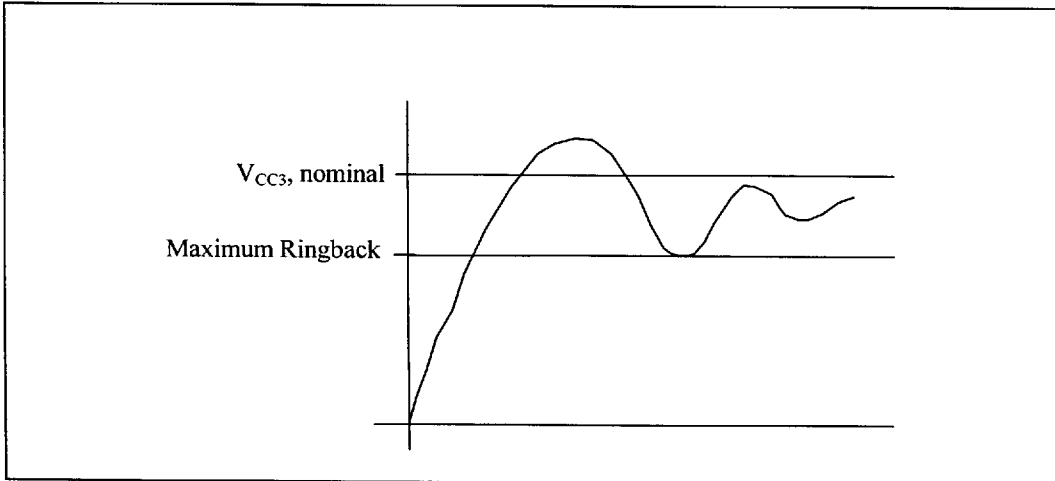
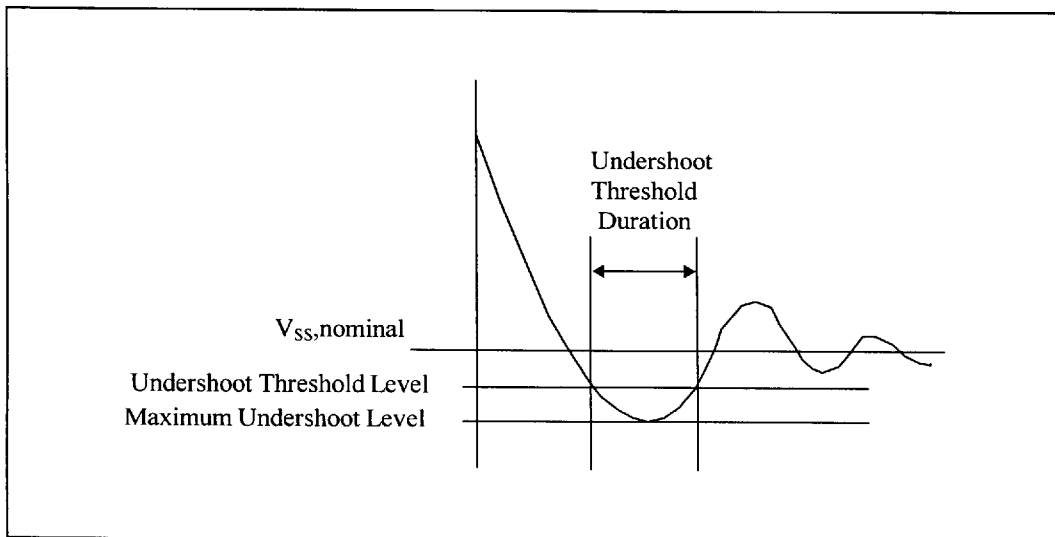
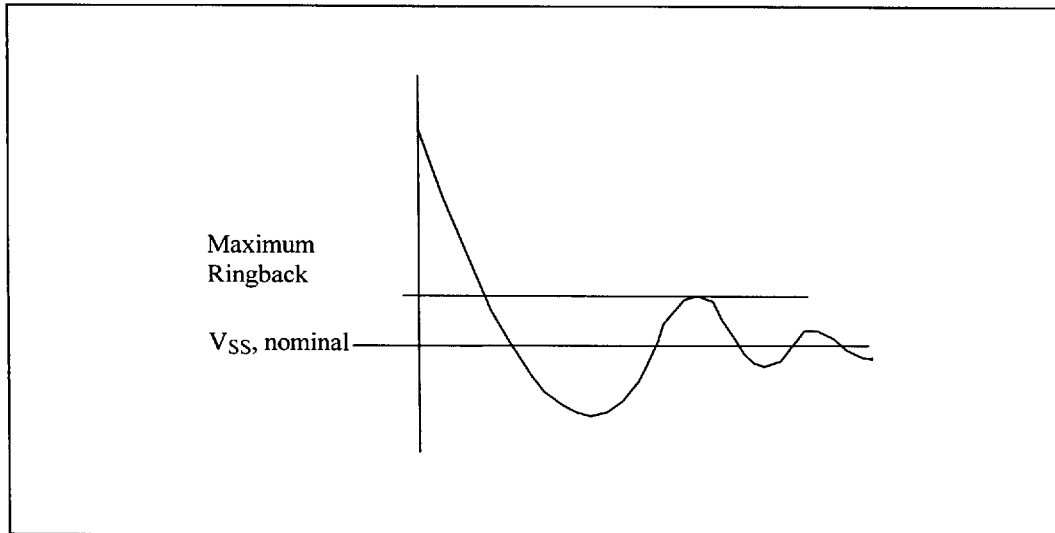

Figure 17. Maximum Ringback Associated with the Signal High State
Figure 18. Maximum Undershoot Level, Undershoot Threshold Level, and Undershoot Threshold Duration
Figure 19. Maximum Ringback Associated with the Signal Low State
MAXIMUM RINGBACK SPECIFICATION: The maximum ringback of CLK associated with their high states (overshoot) must not drop below $V_{CC3} - 0.8V$ as shown in Figure 17. Similarly, the maximum ringback of CLK associated with their low states (undershoot) must not exceed $0.8V$ as shown in Figure 19.
1. See Figures 18 and Figure 19.